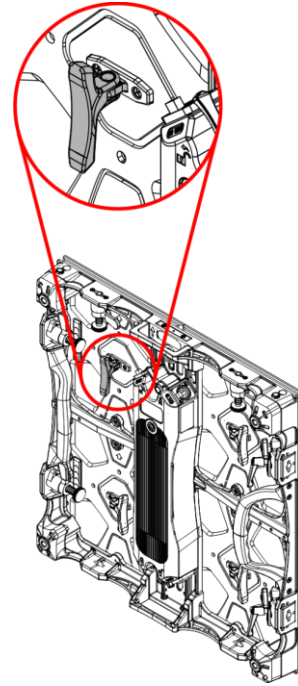

Fig. 64
- 02) Hold the **service handle (15)** with one hand and push the LED screen module out of the **cabinet frame (18)**, as shown in Fig. 64 and 65.